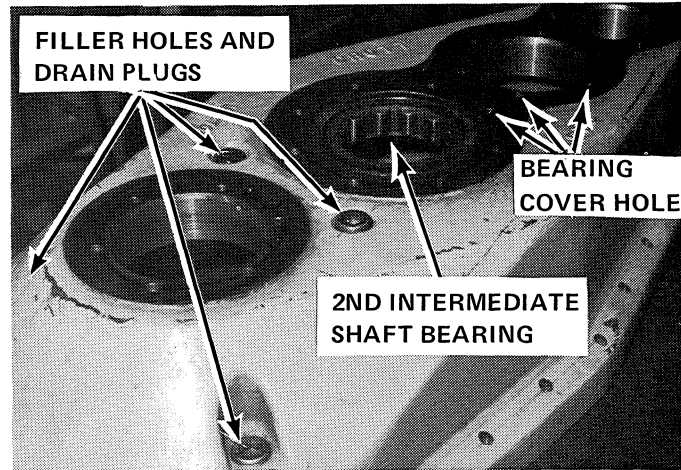

Figure 5. 2nd Intermediate Shaft Bearing Installed
1. Turn gear case, cover side down. Install filler and drain plugs in gear case. (See Figure 5).
2. Install second intermediate shaft bearing in gear case. (See Figure 5).
3. Spread a bead of red Loctite (Case No. B17427) around the gear case bearing cover holes. (See Figure 5).